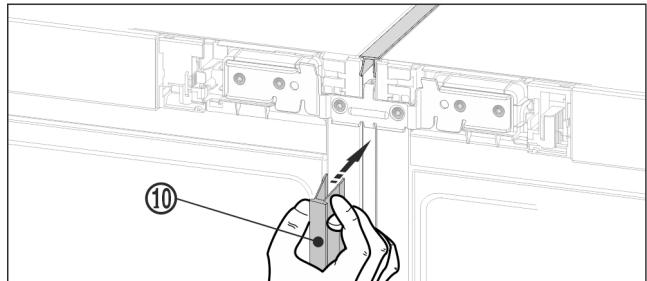

Fig. 20
- ▶ On the front, press the long cover strip Fig. 20 (10) into the vertical gap. Ensure that the strip rests on the connecting plate.